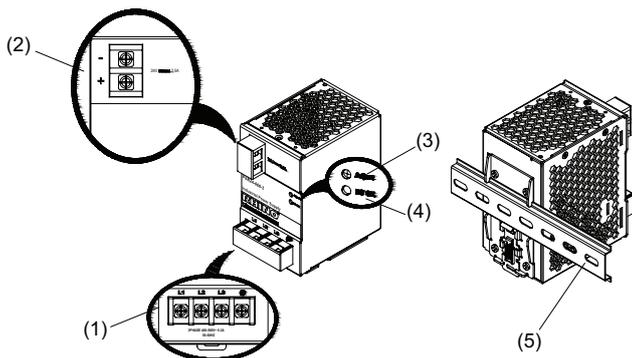

Figure 1
2. Device description (Fig. 1)
5.1. Input connection (Fig. 1, Fig. 5)
5.2. Output connection (Fig. 1 (2))
The green LED DC OK displays correct function of the output (Fig. 1 (4)).